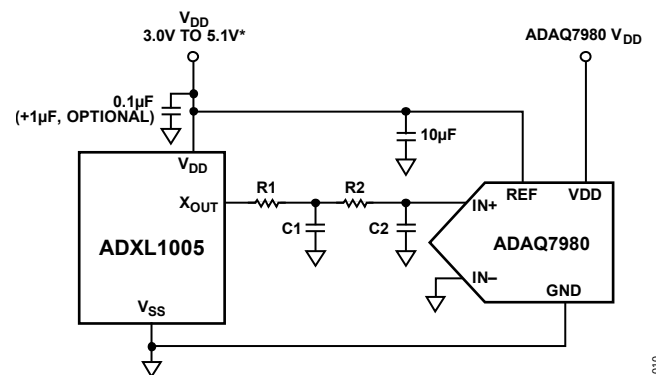

Figure 23. Application Circuit for the ADXL1005
See Figure 23 for an example of the interface, including components when measuring mechanical vibration from 0 kHz to 5 kHz. For a 5 kHz pass band, a single-pole resistor capacitor (RC) filter is acceptable. However, in some applications, use of a more aggressive filter and lower sample ADC sample rate is possible. The following components are recommended to form a 5 kHz low-pass RC filter at the output of the ADXL1005 when interfacing to an ADC, such as the ADAAQ7980: $R1 = 91\text{ k}\Omega$, $C1 = 330\text{ pF}$, $R2 = 0\text{ }\Omega$, and $C2$ is not required. A minimum ADC sample rate of 16 kHz is recommended to avoid aliasing. When using sampling rates less than the resonance frequency (typically 42 kHz), be aware and account for the effective gain at the output of the sensor due to the resonance to ensure out of band signals are properly attenuated and do not alias into the band.
See Figure 23 for an example of the interface, including components when measuring mechanical vibration from 0 kHz to 10 kHz. The following components are recommended to form a two-pole RC filter at the output of the ADXL1005: $R1 = 500\text{ }\Omega$, $C1 = 10,000\text{ pF}$, $R2 = 1\text{ k}\Omega$, and $C2 = 10,000\text{ pF}$. A minimum ADC sample rate of 200 kHz is recommended to avoid aliasing.